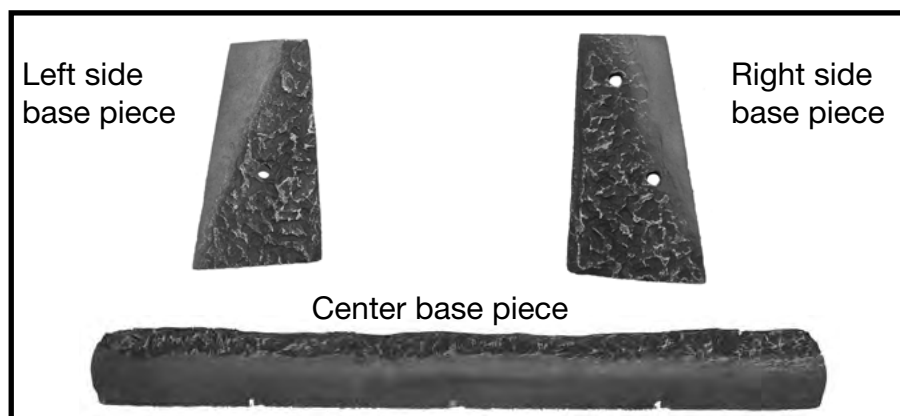

Figure 92: Log set base pieces.
4. Position the base pieces (Figure 92) as follows: Place the left and right base pieces so that their leading edges are parallel to the leading edge of the front burner (Figure 93). Follow this by placing the center base piece so that it covers the pilot assembly. Move all 3 pieces so that the front and side pieces are touching each other (Figure 94). These pieces will form containments for the ember material.